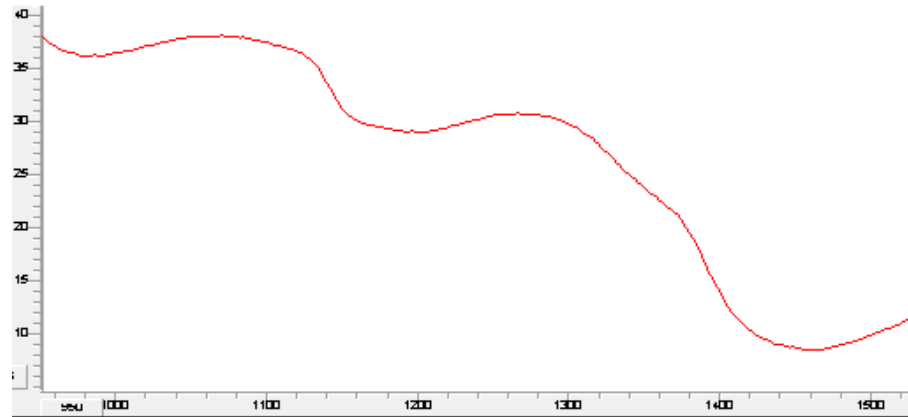

Figure 42. Good Quality Scan (One curve shown for clarity of shape)
- b. The scan should look like the below picture. The scale on the left is a measurement of scan quality. Should start out higher than 20, be wavy, and drop lower as indicated in Figure 42.